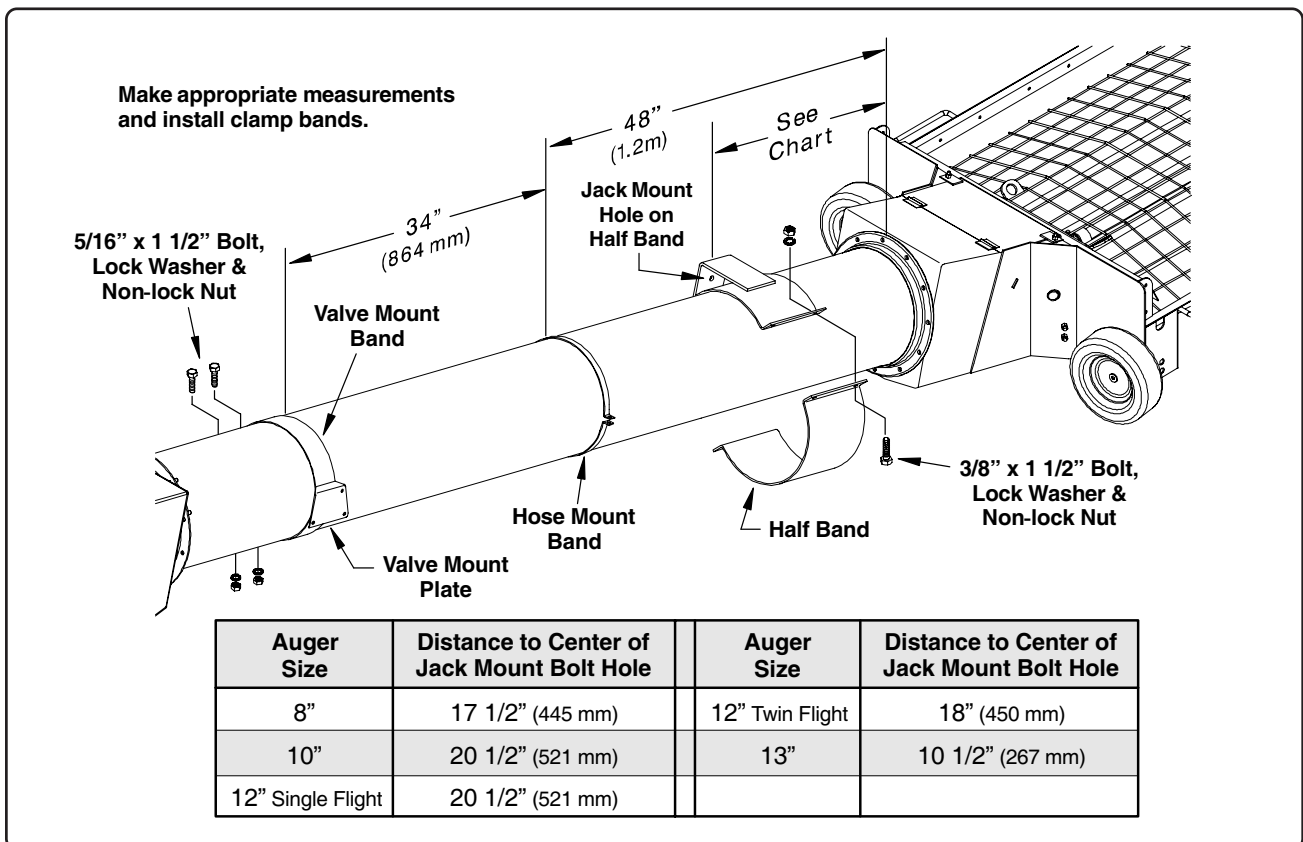

Fig. 1
Using the chart below, measure from the lower end of the swing-away hopper incline tube to the center of the jack mount hole located on the clamp band. Using four 3/8" x 1-1/2" bolts, lock washers and non-lock nuts, loosely attach the clamp band at this location (See Fig. 1).
2. Measure up 48" (1.2 m) from the lower end of the incline tube and install the hose mount band at this location (See Fig. 1). DO NOT install the bolt. It will be installed when the hydraulic hoses and hose clamps are assembled.
3. From the hose mount band, measure 34" (864 mm) towards the discharge end of the incline tube. Install the valve mount band onto the tube (position the valve mounting plate to the side of the incline tube as shown in Fig. 1). Secure the band using two 5/16" x 1-1/2" bolts, lock washers and non-lock nuts.